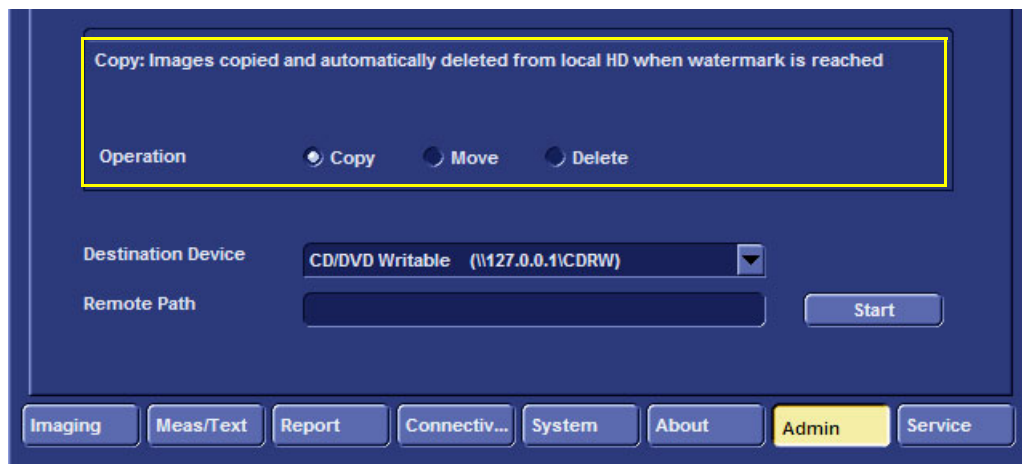

Figure 8-137 Copy Images for Export
- 7.) Under Operation, select **Copy** - see Figure 8-137.